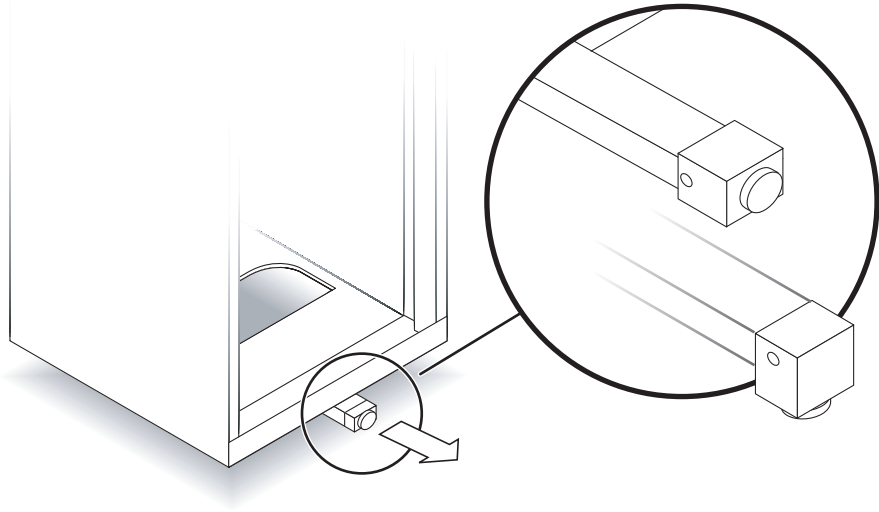

FIGURE 2 Deploying the Antitilt Bar
1. Pull the end of the antitilt bar out to its fully extended position (FIGURE 2).